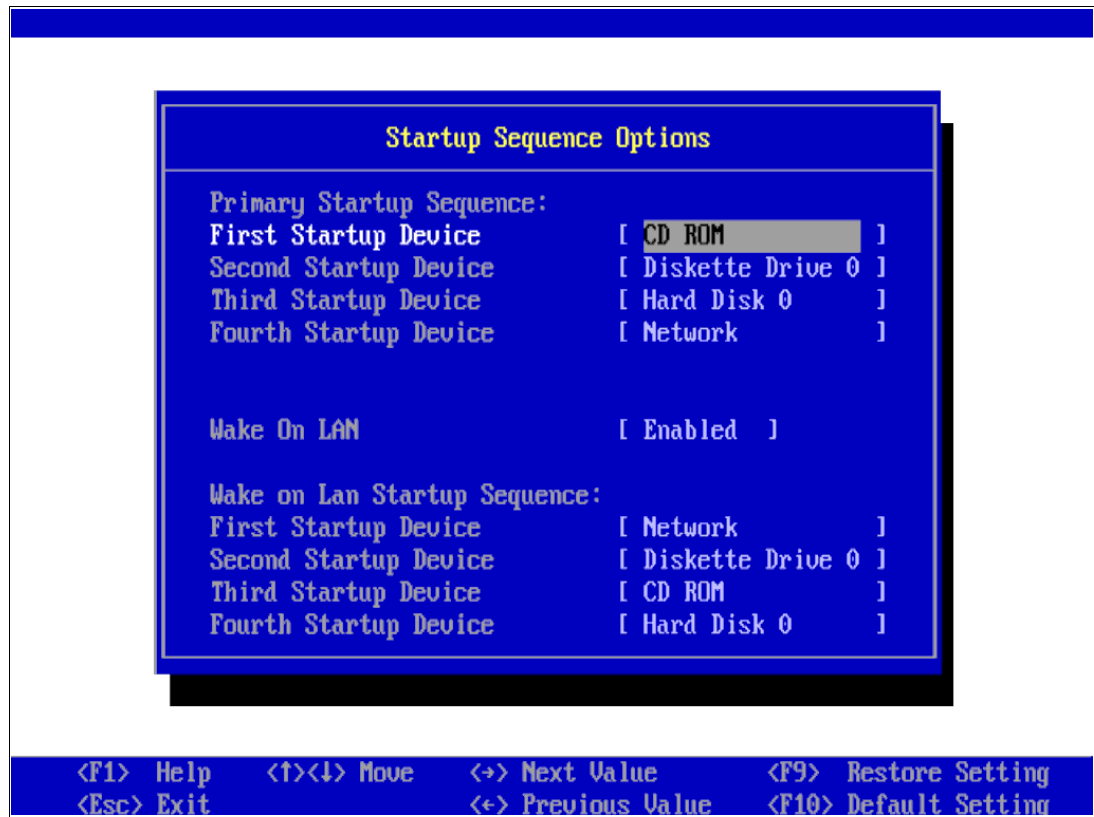

Figure 27-9 Startup Sequence Options
- From the main Configuration/Setup Utility window, select **Start Options**. Verify the Startup Sequence Option is configured, as shown in Figure 27-9.
- Depending on which PCI slot your first HBA adapter is placed in, select the appropriate boot priority for PCI devices. From the Start Options menu, select the PCI Device Boot Priority; for our example, the first HBA card is in slot 1, as shown in Figure 27-9.